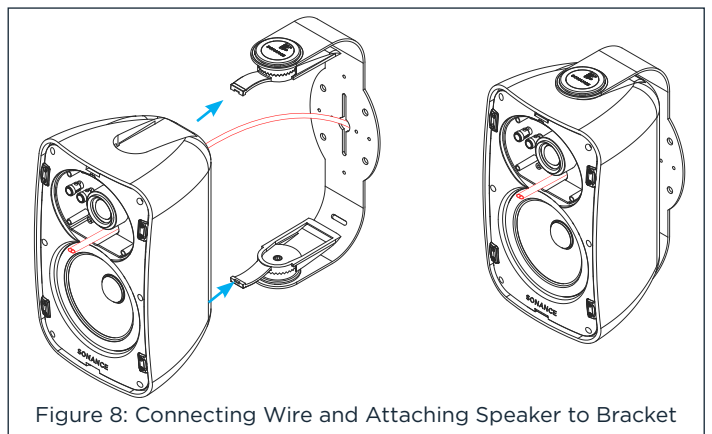

Figure 8: Connecting Wire and Attaching Speaker to Bracket
Pull enough wire through the front of the speaker to allow connection to the terminals (see Figure 8).
- Insert the wires into the connector holes (see Figure 8).